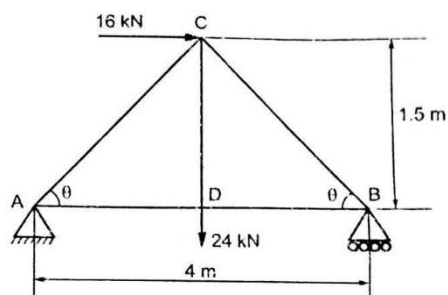

Fig 12. a
12. a Determine the forces by the method of joints in the truss shown in Fig.12. a. It carries a horizontal load of 16 kN and a vertical load of 24 kN. L5 2 16